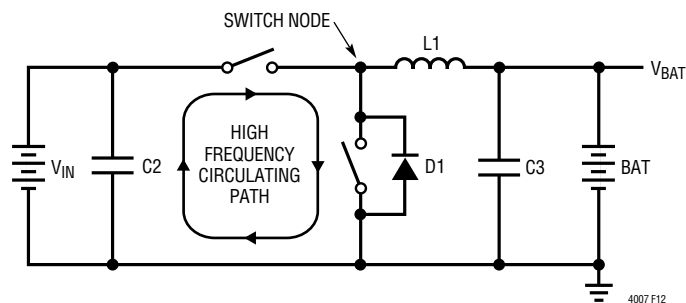

Figure 12. High Speed Switching Path
For maximum efficiency, the switch node rise and fall times should be minimized. To prevent magnetic and electrical field radiation and high frequency resonant problems, proper layout of the components connected to the IC is essential. (See Figure 12.) Here is a PCB layout priority list for proper layout. Layout the PCB using this specific order.
- For best current programming accuracy provide a Kelvin connection from R_{SENSE} to CSP and BAT. See Figure 12 as an example.